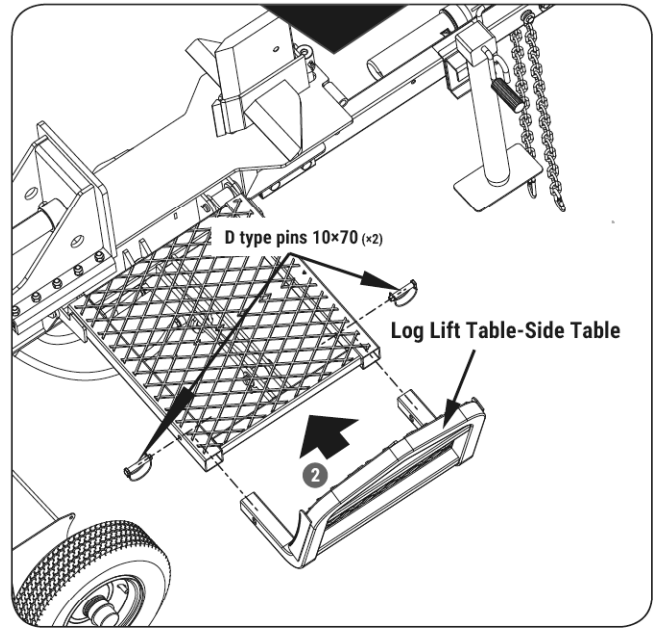

Figure 9b
3. Pull the log lift control lever backward to raise the log lift table-main table, (See **Figure 9b, Illustration 1.**)
4. Insert the Log Lift Table-Side Table to the Main Table and screw with the D type pins 10x70. (See **Figure 9b, Illustration 2.**)